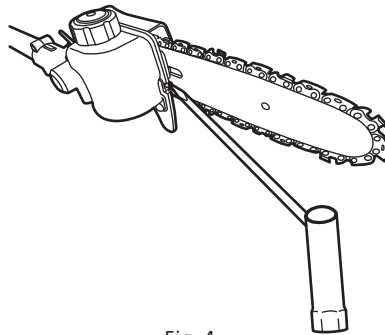

Fig. 4
- Lift up the tip of the guide bar (7) and keep it there as you adjust the tension.
- Turn the tension screw (12) clockwise until the chain "tie straps" are just touching the bottom edge of the guide bar (7). (See Fig. 4)